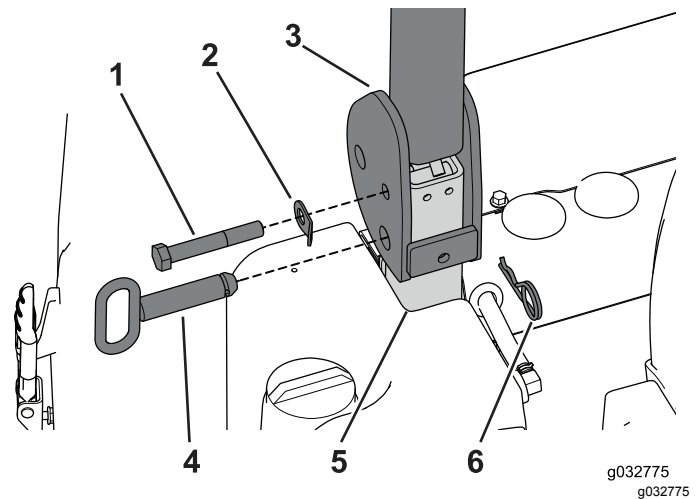

Figure 46
2. Remove the hairpins , and the pivot-lock pins from the roll bar and set the hairpins aside (Figure 46).